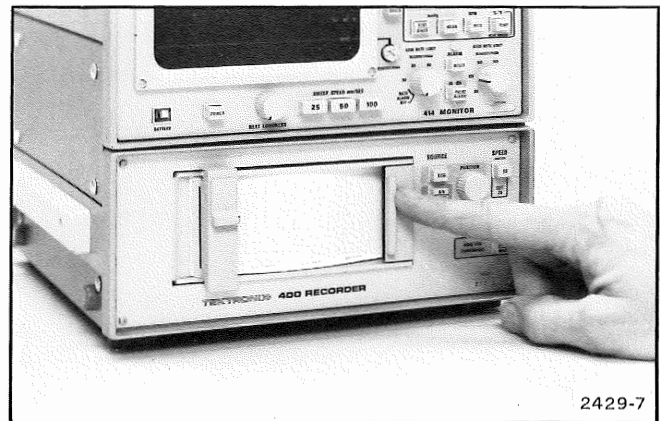

Figure 2-1. Opening paper carriage.
1. Open paper carriage by pushing Latch to the left as shown in Figure 2-1.